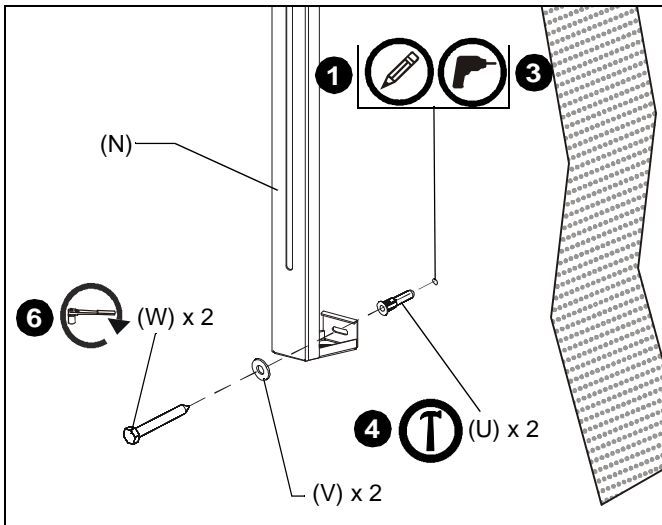

Figure 13
1. Mark the wall through the adjustable leg (N) at the lower end of each upright assembly. (See Figure 13)
3. Drill one 1/4" x 2-3/4" pilot hole at marking. (See Figure 13)
4. Install a toggler (U) into pilot hole using a hammer. (See Figure 13)
6. Use one 1/4-20 x 2-1/2" lag bolt (W) and one 1/4" flat washer (V) to attach adjustable leg (N) to anchor in wall. (See Figure 13)